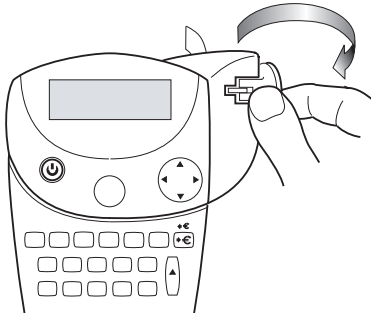

Figure 5
- Cut the label using your thumb to lift the cutting lever and pull it towards the back of the printer. See Figure 5.